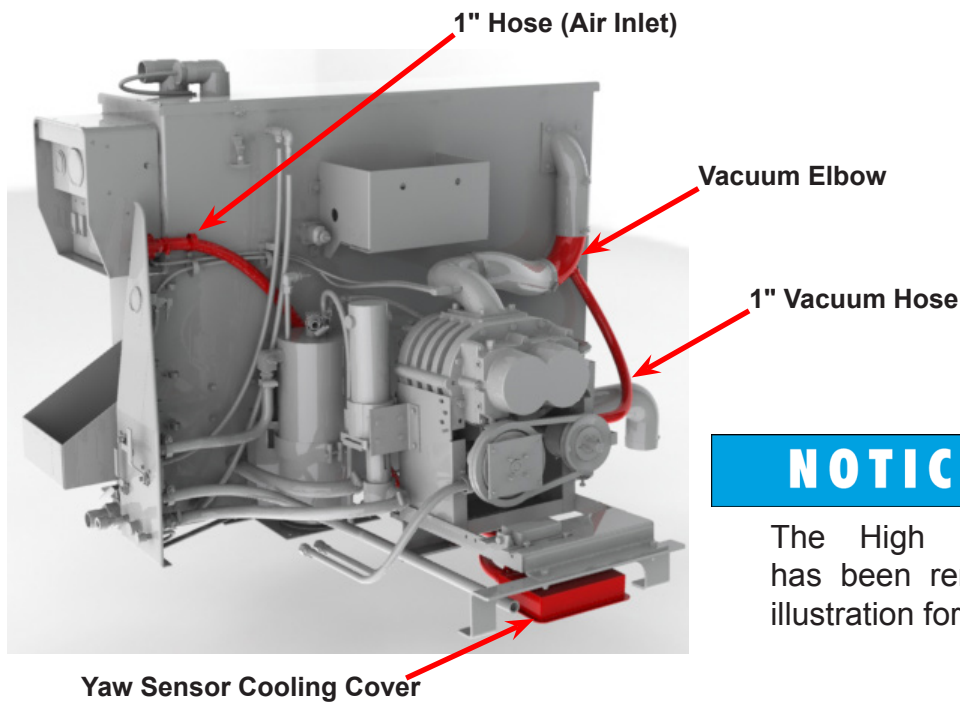

Figure 4. Remove the Original Clear Plastic Cover
13. Remove the clear plastic cover that is over the top of the yaw sensor (see Figure 4 and Figure 5). This plastic cover will not be re-installed.